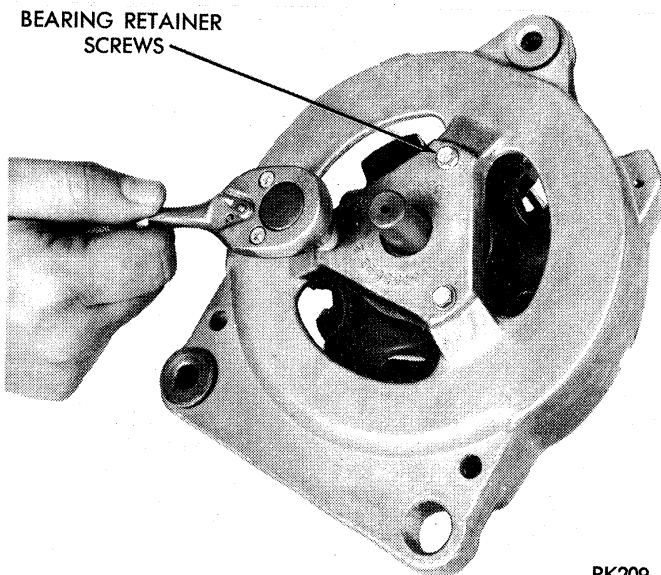

Fig. 54—Removing Bearing Retaining Screws
- (4) Remove screws attaching bearing retainer to drive end shield (Fig. 54).
- (5) Support end shield and tap rotor shaft with a plastic hammer to separate rotor from end shield.